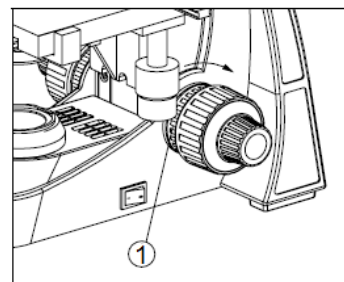

Fig. 3 Retaining attachment adjustment
- You need to adjust the retaining attachment (1) in order to fix the following problems: Difficulty turning the coarse focus adjustment knob, slide slowly losing focus, sliding of object stage (see Fig. 3).